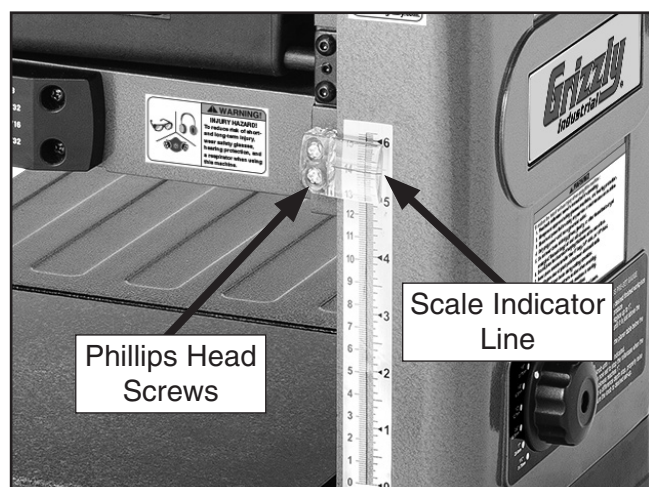

Figure 44. Elevation scale components used to calibrate thickness reading.
3. If there is a discrepancy between board thickness and reading on elevation scale, loosen Phillips head screws shown in **Figure 44**, adjust position of red line to indicate correct thickness, then tighten screws.